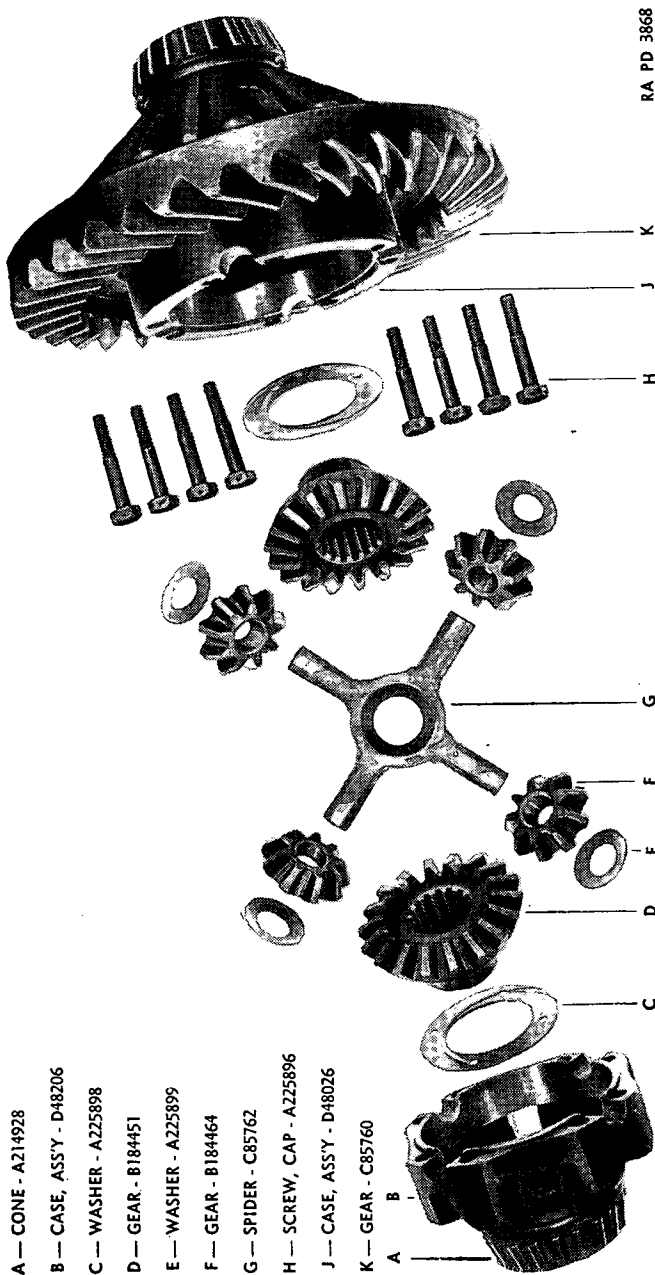

FIGURE 30.—Front axle differential assembly, exploded.
(8) Remove differential gears. Mark halves of case to facilitate their realinement during assembly. Split case open and remove spider (C85762), pinion gears (B184464, B184481), thrust washers (A225899), and side gears (B184451, B184480) and their thrust washers (A225898, fig. 30).